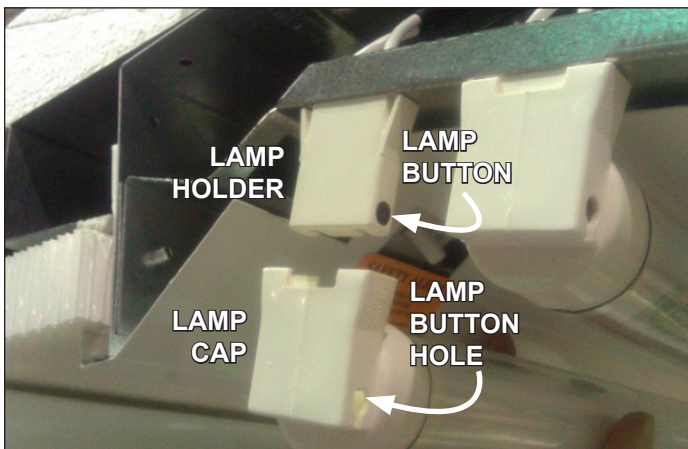

Fig. 12 Remove old T-8
1. Simultaneously pull down at both ends of the old T-8 light to remove from the lamp holder (Fig. 12). Remove the lamp caps and plastic shield from the old light, then discard the light.